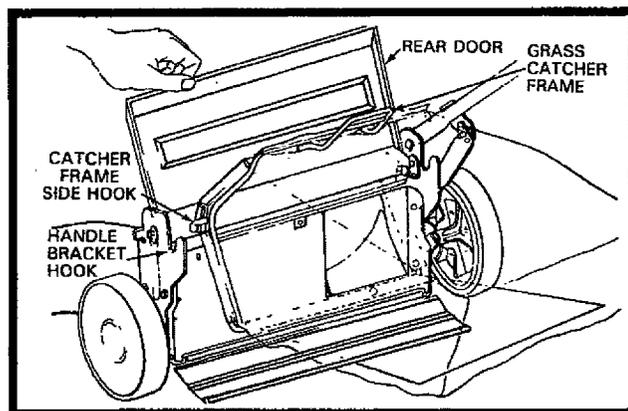

FIG. 4
- Lift the rear door of the lawn mower and place the catcher frame side hooks onto the handle bracket hooks (See Fig. 4).